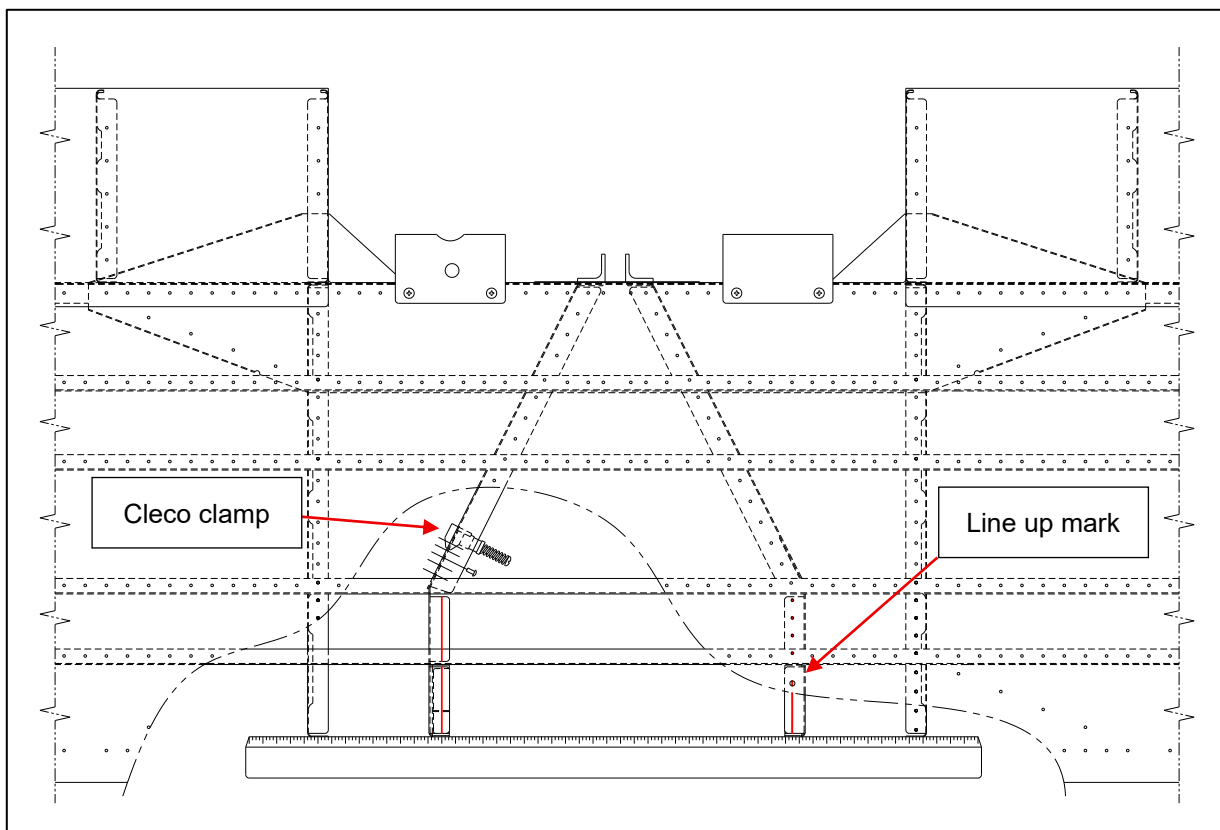

Figure 6: Installation of Rib Sections
- 13.4.5 Use a straight edge across the rear flanges of both No 2 ribs and align both Rib 1 Section rear flanges with the straight edge. Ensure the rib rear flange is square to the straight edge and that the line from the previous step is central in the bolt holes for the Stabiliser Mounting Channel. See Figure 6